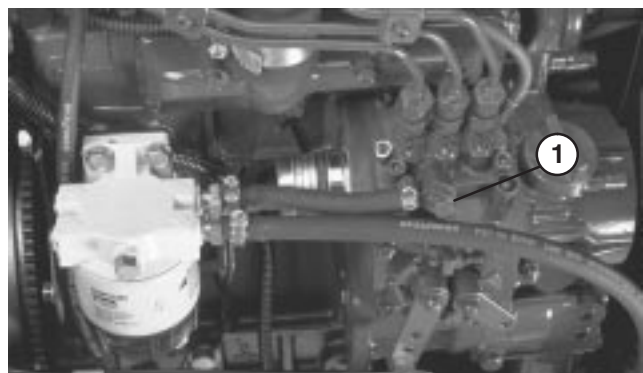

Figure 25
BLEEDING FUEL SYSTEM (Fig. 25)
3. Open the air bleed screw on the fuel injection pump (Fig. 25).